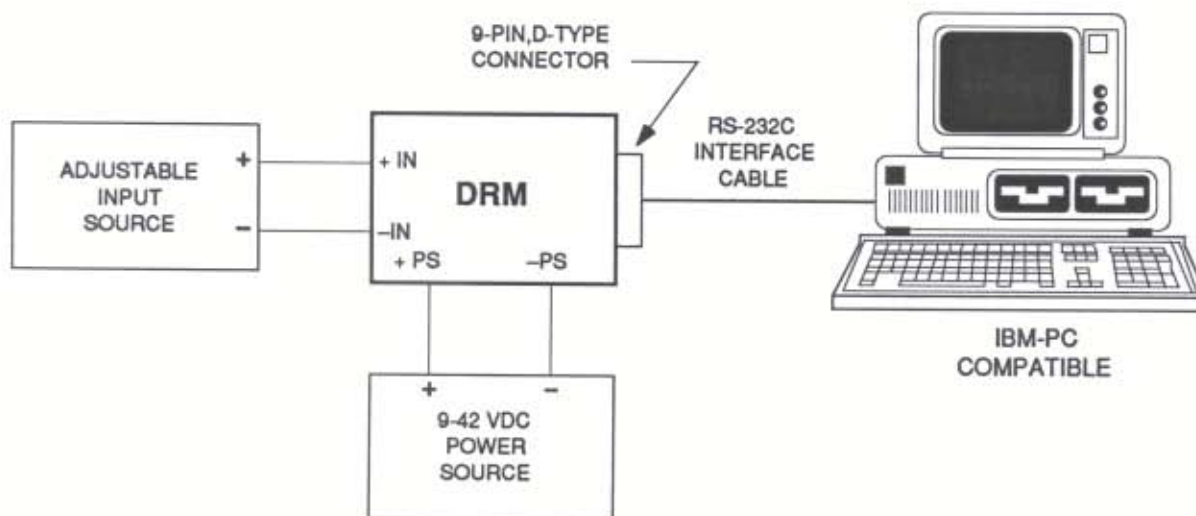

Figure 2. DRM Calibration Hookup
Table 3 lists the equipment required to calibrate (or bench check) the DRM. Figure 2 shows the calibration hookup required to check and adjust the DRM output.
The DRM must be connected as shown in figure 2 to perform the calibration. The DRM Support Software must be installed in the appropriate disk drive. Also, the IBM-PC, or compatible, must be operating under MS-DOS to run the DRM Support Software.
1. Set up DRM as shown in figure 2.